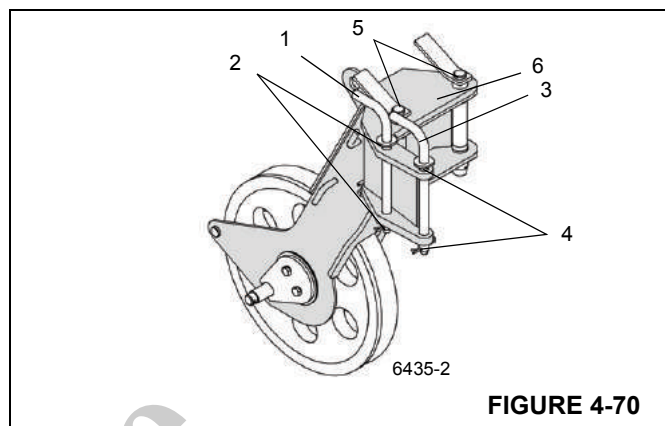

FIGURE 4-70
4. Insert the two thin pins (1) and (3) into the bearing points (2) and (4) on the auxiliary single-sheave boom nose (Figure 4-70).
5. Insert the two pins (5) into the mounting brackets (6) in front on the auxiliary single-sheave boom nose.